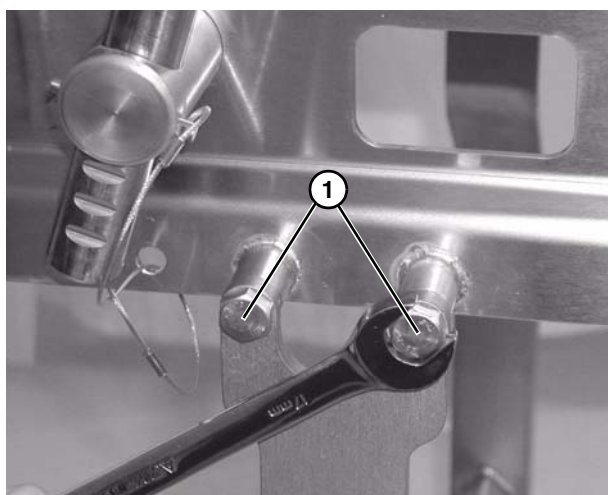

Figure 7
2. Attach the stands to the frame (Figure 7).
3. Tighten hex screws (Figure 7, item 1).